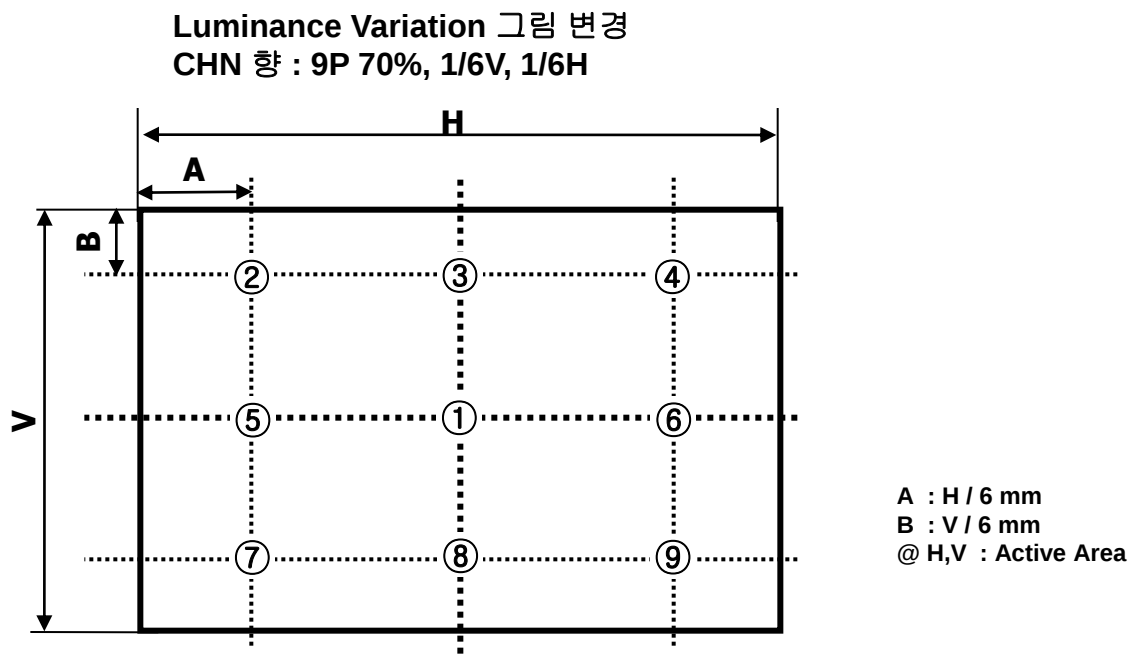

FIG. 2 9 Points for Luminance Measure
n = the Position number(1, 2, 3, 4, 5). For more information, see FIG. 2.
2. Surface luminance are determined after the unit has been 'ON' and 1 Hour after lighting the backlight in a dark environment at $25 \pm 2^\circ\text{C}$. Surface luminance is the luminance value at center 1-point across the LCD surface 50cm from the surface with all pixels displaying white. For more information see the FIG. 2.
For more information, see the FIG. 2.